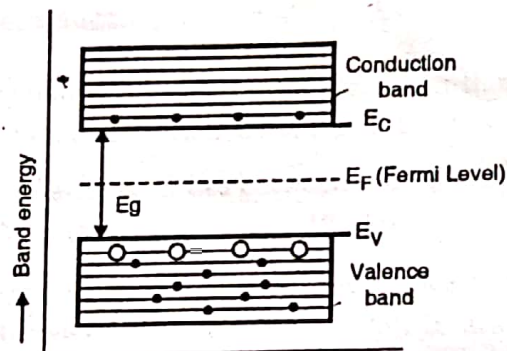

Fig. 2.13.1
- Hence the Fermi level in intrinsic semiconductor lies exactly at the middle of the forbidden band as shown in Fig. 2.13.1.